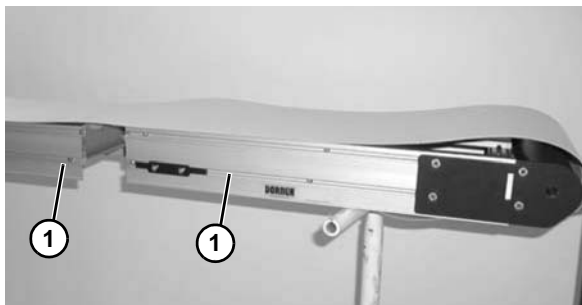

Figure 10
3. Roll out conveyor belt and place conveyor frame sections (**Figure 10, item 1**) into belt loop.